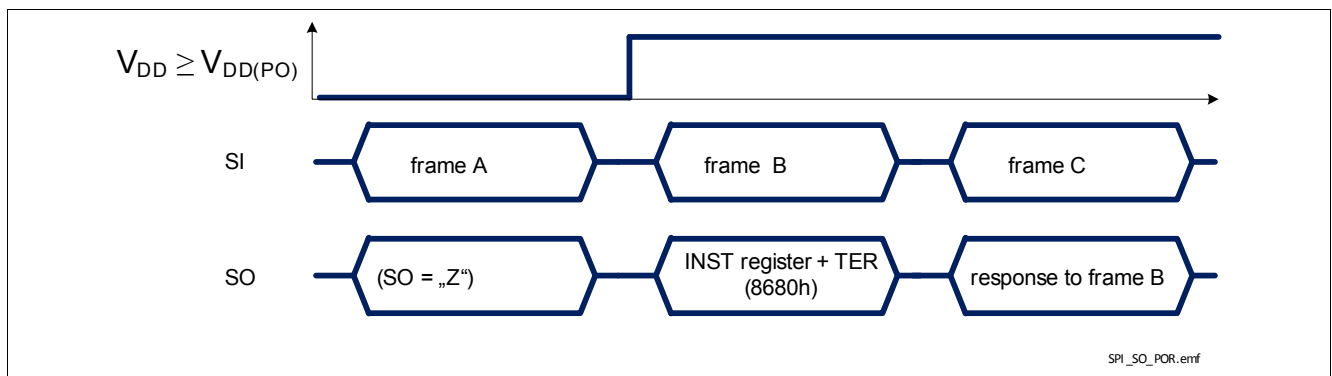

Figure 41 TLE75242-ESH response after coming out of Power-On reset at  $V_{DD}$
- when TLE75242-ESH logic supply comes out of Power-On reset condition or after a Software Reset, as shown in **Figure 41**